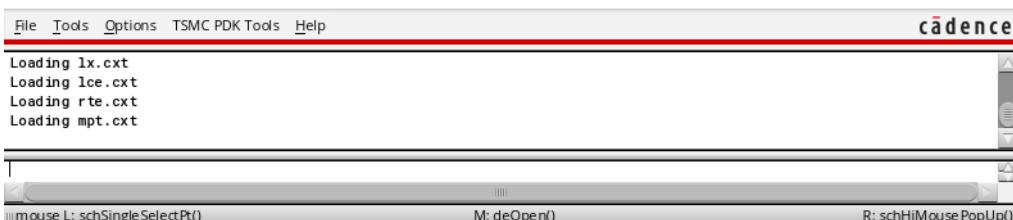
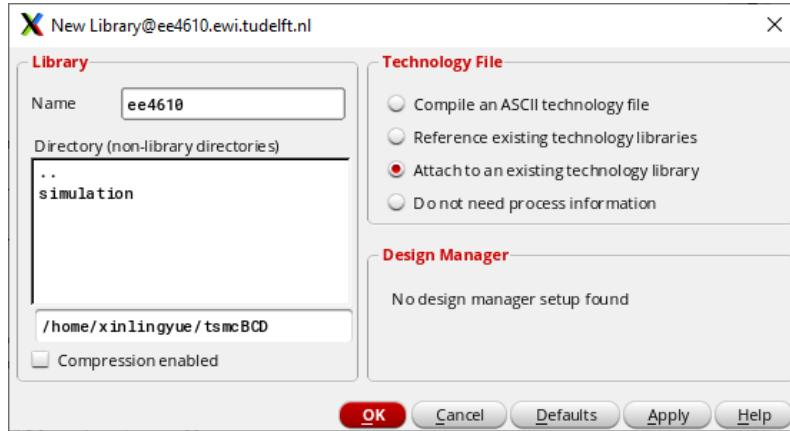

Figure 1: Virtuoso
Figure 2: Create your own library
Step1: Create your own library. When you start the Virtuoso, Fig. 1 will pop out.
- Create your own library by clicking *File > New > Library* in Fig. 1. For example, here "ee4610" is the name of the new library in Fig. 2.